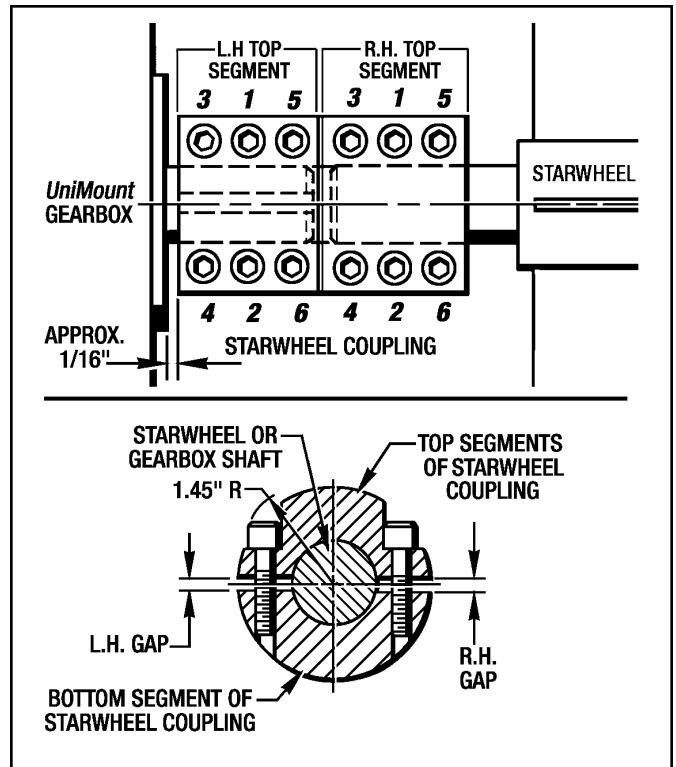

Figure 3.2 - Installing Drive Coupling
7. Install the Starwheel Couplings (The bottom half and the L. H. Top Segment.) onto the Gearbox Output Shafts (#1) so the Couplings are approx. 1/16" from the Gearbox face as shown in Figure 3.2. Torque the (6) Screws to **27 Lb. Ft. (38 Nm)** in an even manner and in the pattern shown in Figure 3.2. Use **Blue Loctite #242**. Make sure the L.H. Gap and the R. H. Gap between the top segment and the bottom segment is the same on both sides as shown in Figure 3.2.
3. Attach the R.H. Top Segment of the Starwheel Coupling with the (6) Screws and Lockwashers. Use **Blue Loctite #242** on the screws. **Torque to 27 Lb. Ft. (38 Nm)** in an even manner and pattern shown in *Figure 3.2*. Again, make sure the L.H. Gap and the R. H. Gap between the top segment and the bottom segment is the same on both sides as shown in *Figure 3.2*.